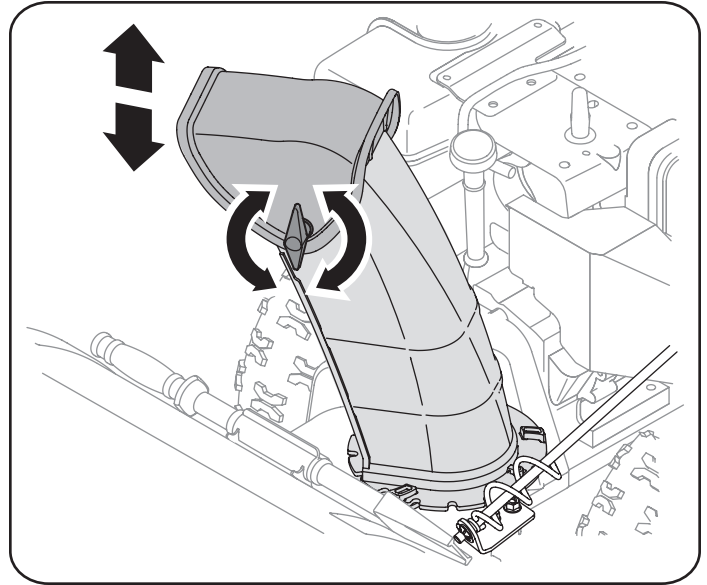

Figure 8
2. Pivot the chute upward or downward before retightening the wing knob. See Figure 8.